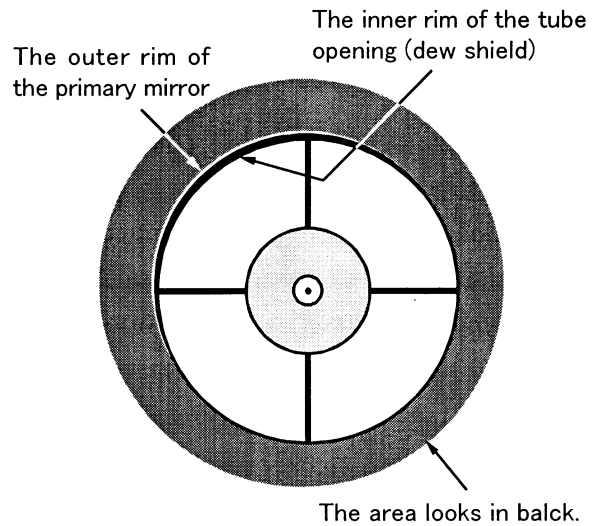
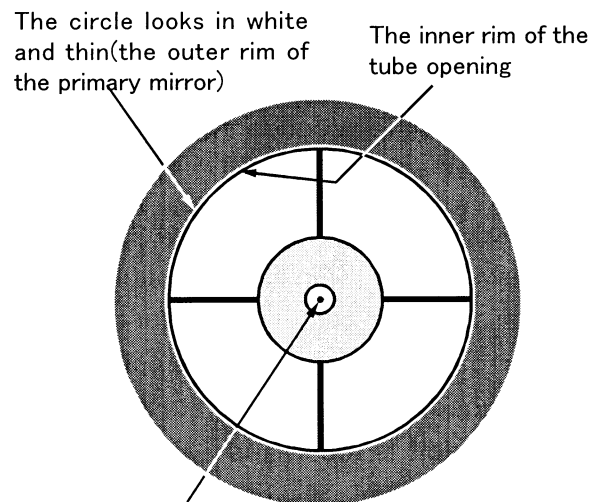

Fig.4
Fig.6
2. Slide the focus tube outward until the circle of the mirror is a circle surrounded by a larger black circle. (Fig.4)
3. If the outside edge of the primary mirror forms an even circle against the black background of the side of the tube as in Fig.6, then it is properly collimated. However, if the position of the outer edge of the primary looks like Fig.4, the primary is out of collimation.
4. If the primary is decollimated, use the push/pull screws located at the rear of the mirror cell to move the primary until the reflection looks like Fig.6.